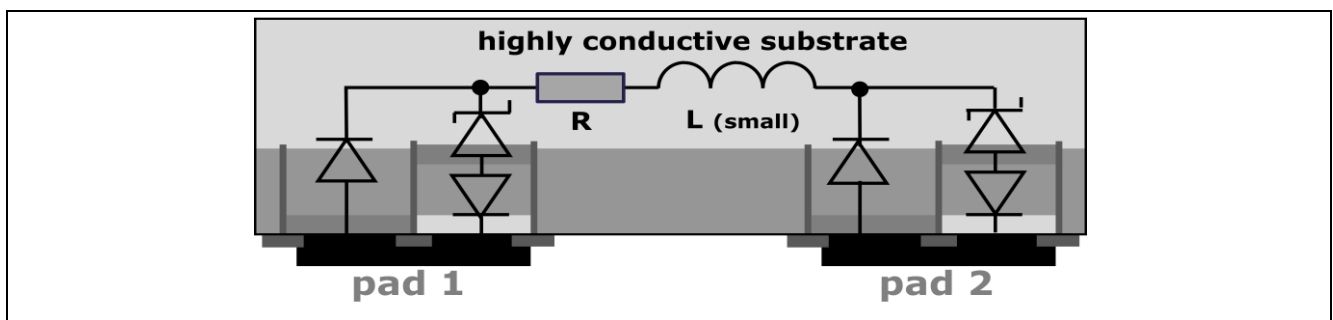

Figure 8 Internal structure of ESD108-B1-CSP0201 / ESD119-B1-W01005
**ESD108-B1-CSP0201** structure is shown in Figure 8. This device in Chip Scale Package provides big advantage of **cost saving**. Also, advanced technology with performance-optimized chip structure and without bond wires guarantees **minimal series inductivity** of the device.